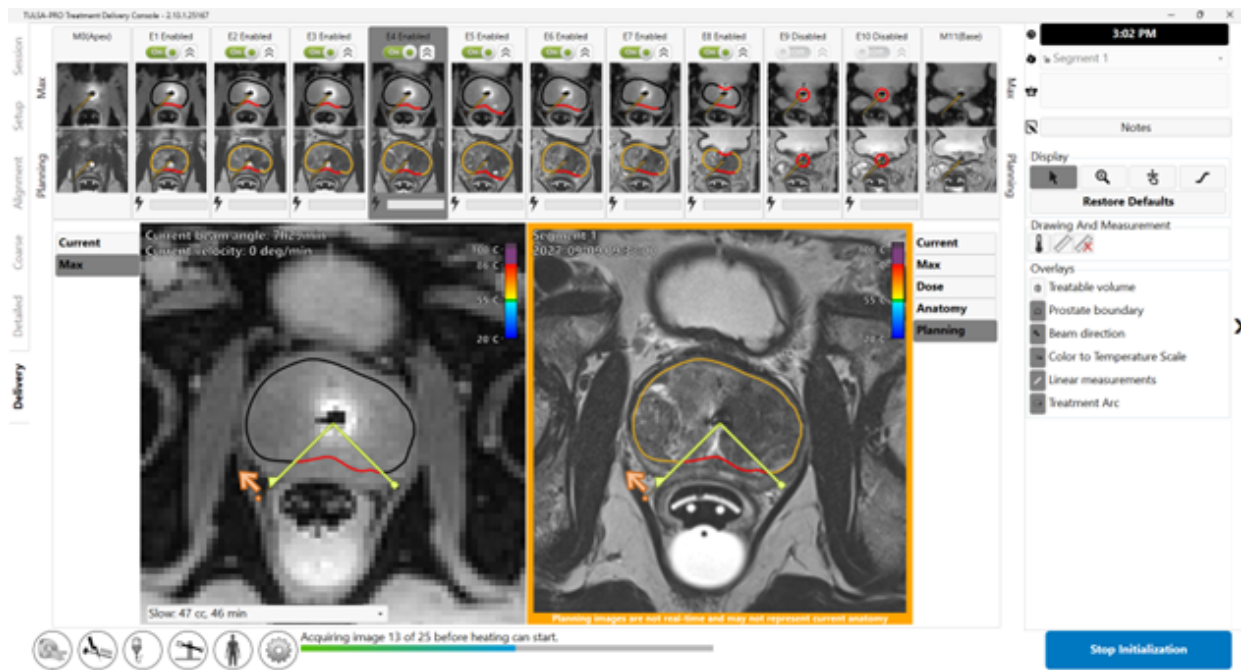

Figure 47: Treatment Initialization state
receive thermometry images (*Figure 47*).
2. **Radiologist:** Click **Start treatment** on TDC. It will prompt you to verify the core body temperature using an external temperature measurement device before proceeding. Enter the temperature in degrees Celsius and click **Confirm**. The TDC will go into **Treatment Initialization** state and will start the thermometry scan on the MR console (*Figure 47*).